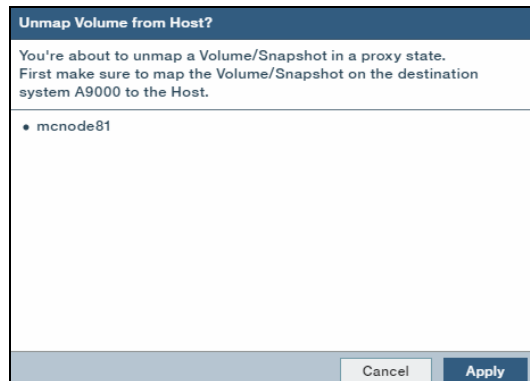

Figure 7-25 Confirm the unmapping of the source volume from the host
2. A confirmation window opens and prompts you to confirm that you want to unmap the selected volume, as shown in Figure 7-25. Click **Apply** to unmap the source volume from the host.